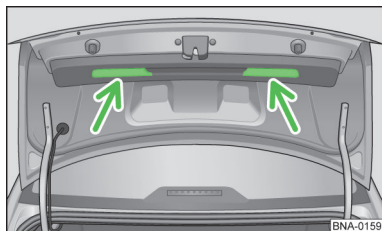

Fig. 12
- Reach into one of the recesses in the inner panelling of the boot lid » fig. 12.